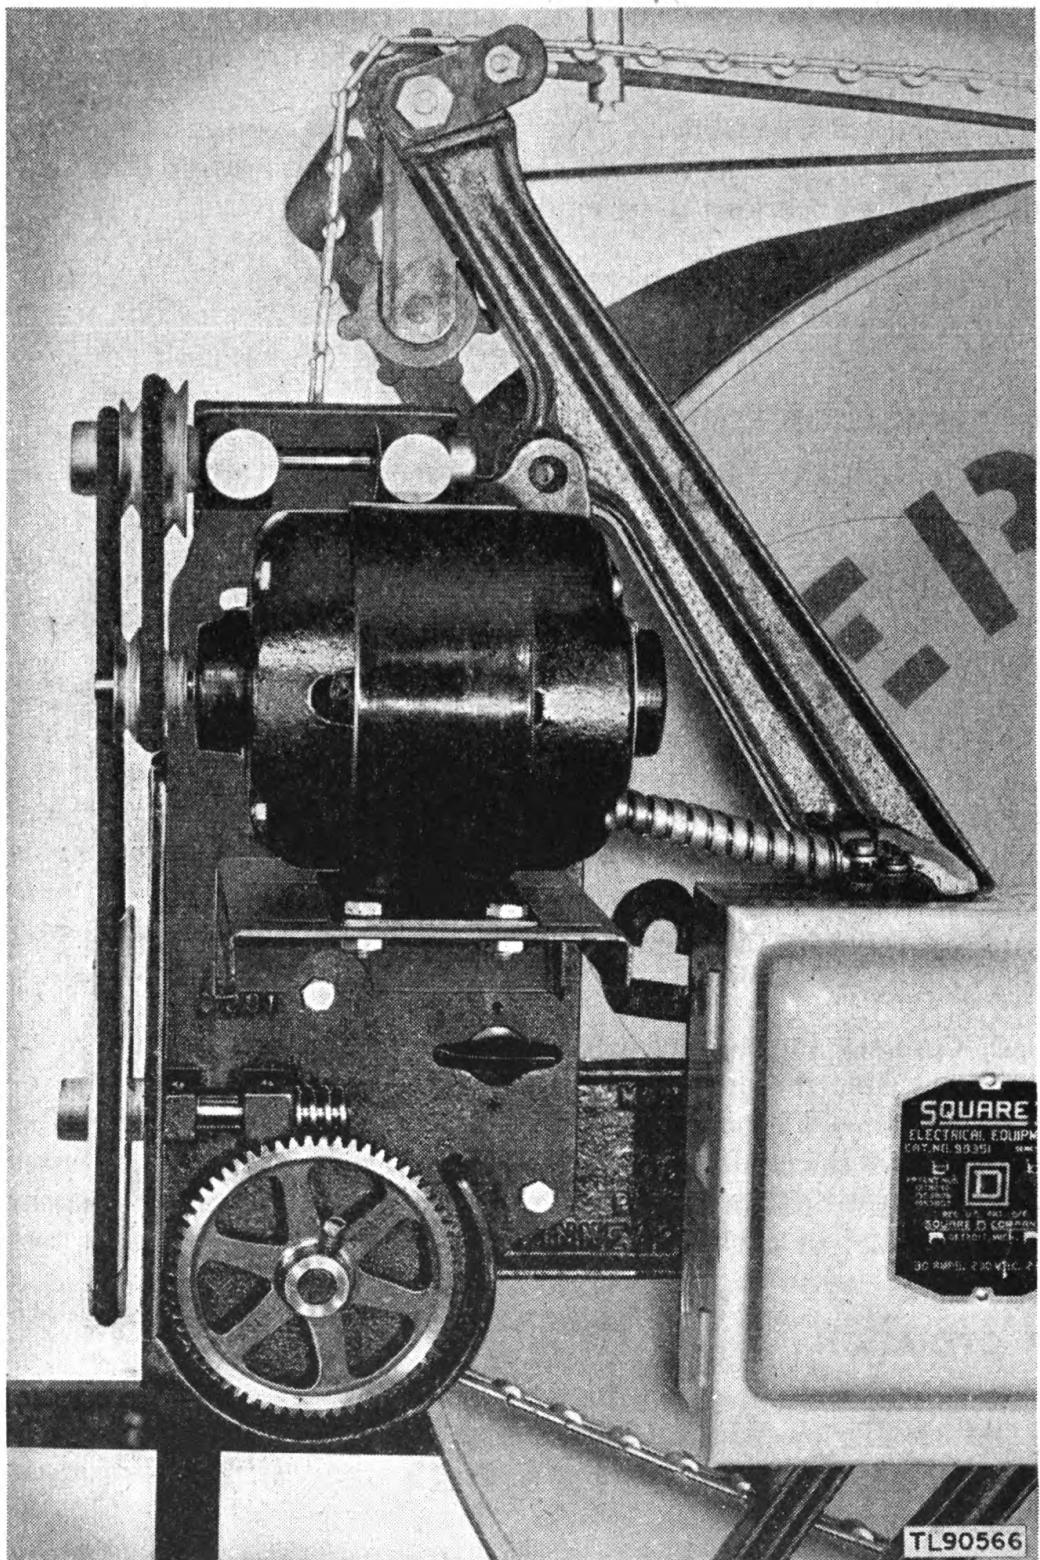
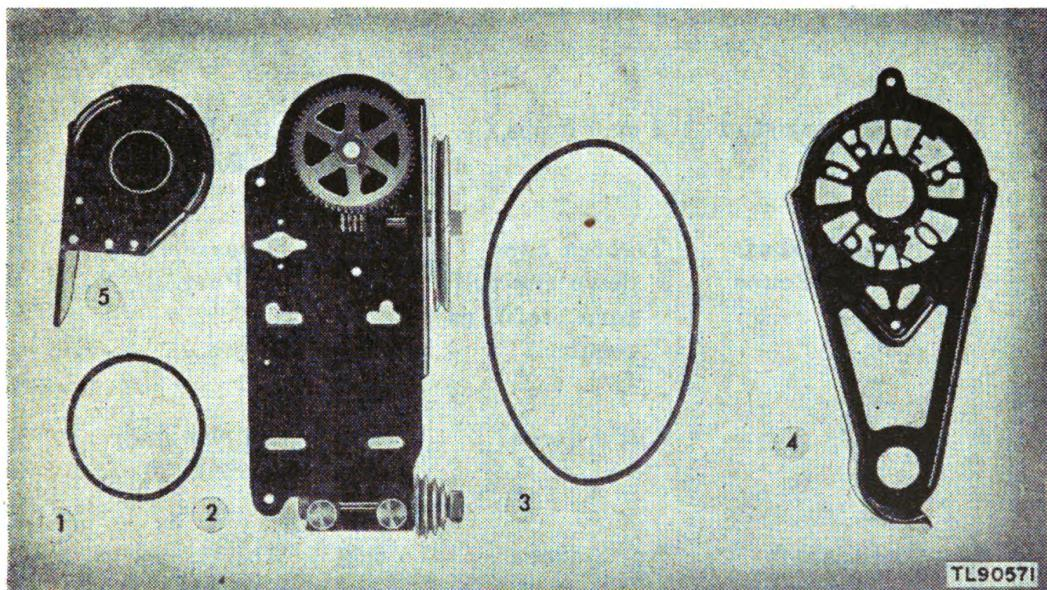

Figure 6. Power unit assembly, side view.
Figure 10. Gear reduction system, disassembled.
i. Power Unit Assembly (fig. 6). The power unit assembly uses a gear train to adapt the speed of the alternating-current motor to the operating speed of the drum. The alternating-current motor
e. **Motor.** Bolt the motor shelf casting to the bracket casting with the two bolts. Then bolt the motor to the shelf with the four bolts from the cloth bag (fig. 6). Be sure that the cone pulleys on the countershaft and the motor shaft are aligned with each other. Place the short belt (fig. 10 ①) over either the first, second, or third pair of grooves in the two cone pulleys.
- e. **Worm and Main Gear.** The worm and main gear (fig. 10 ②) located under the gear cover on the motor bracket should be inspected for wear every 6 months. Make the inspection when the cover (fig. 10 ④) is removed for lubrication. Replacement of the worm-shaft assembly and main gear is advisable when the teeth are worn in half.